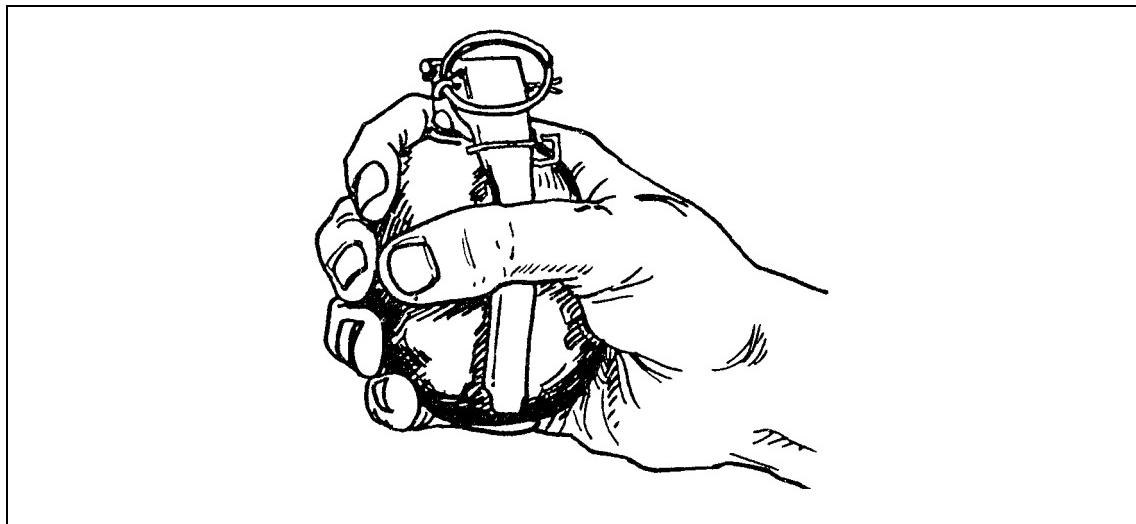

Figure 3-3. Right-handed grip.
- Right-handed soldiers hold the grenade upright with the pull ring away from the palm of the throwing hand so that the pull ring can be easily removed by the index or middle finger of the free hand (Figure 3-3).